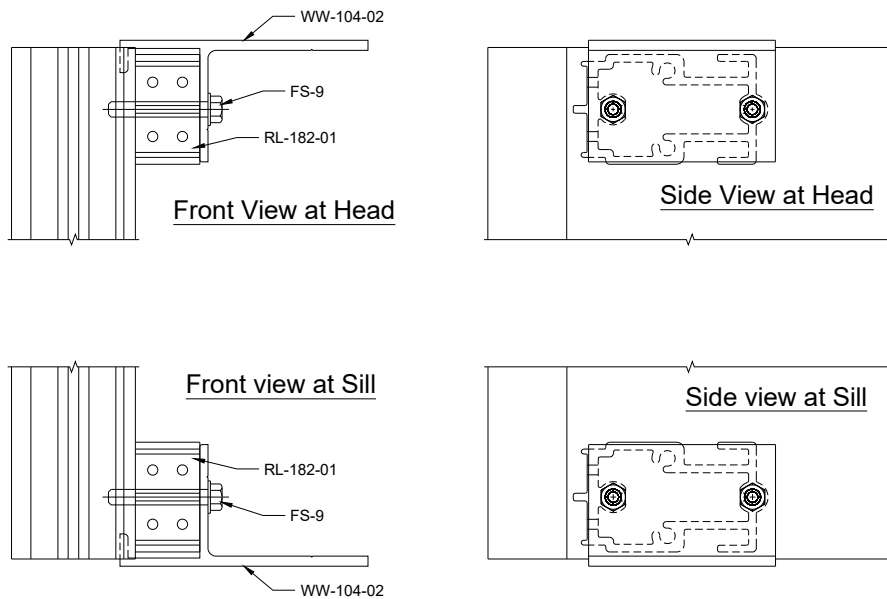

Figure 30: WW-104-02 Shear Block Anchor Attachment
- 10.4 If using **WW-104-02** Shear Block anchors (*Single and Twin Span Installation Only*), attach anchors and standard **RL-182-01** Shear Blocks to Vertical using **FS-9** Fasteners, see *Figure 30*. **NOTE:** Depending on the end reaction, either the shear block anchor or "F" and "T" anchors can be used to anchor the wall. When using the **WW-104-02** Shear Block anchor at Head and Sill, the **MAXIMUM** load is 375 lbs. per anchor (750 lbs. with anchor on both side of mullion). These capacities are based on proper design for anchor fastener to surrounding building condition.